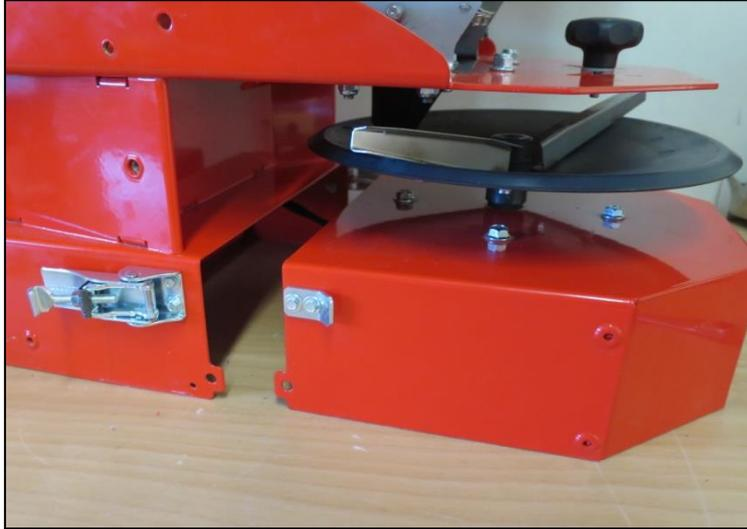

Fig.: 43
- To connect the cable from the spreading plate motor to the multi-metering unit, position the plate frame as shown in Fig.: 43.